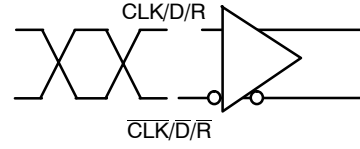

Figure 5. Differential Inputs Driven Differentially
**DIFFERENTIAL INPUT DRIVEN DIFFERENTIALLY (Figures 5, 6 & 8 )**